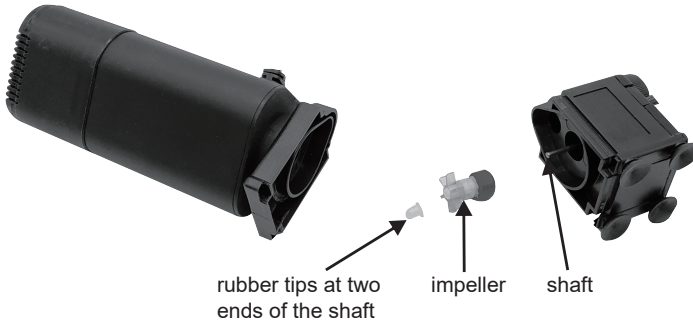

Fig.3
- Connect the cartridge to the impeller housing (Ref. Fig. 3)